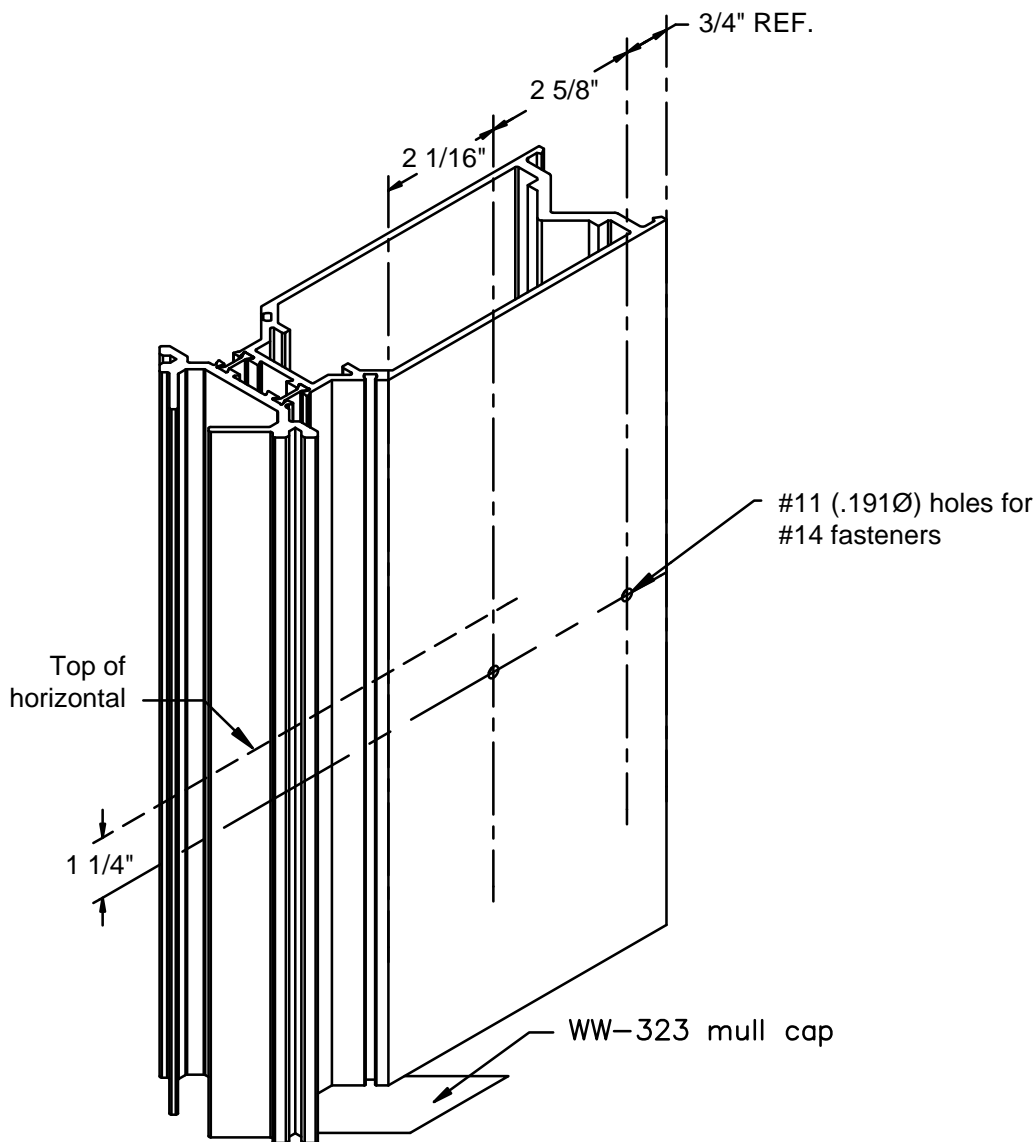

FIGURE 31
- 4.1 Fabricate vertical mullions for horizontal members as shown in FIGURE 31. Drill tap holes using #11 (.191Ø) drill.